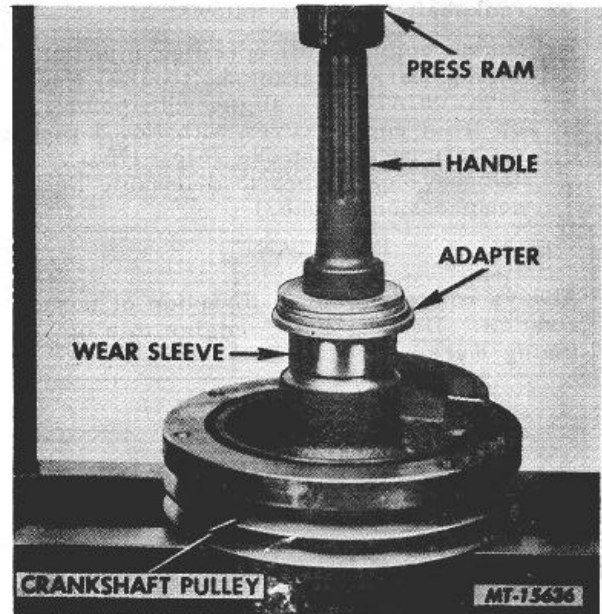

Fig. 173 Installing Front Oil Seal Wear Sleeve
- b. Heat wear sleeve in boiling water and position on pulley hub. Using handle and 7.3 cm (2-7/8 inch) diameter adapter from SE-1905 tool set, press wear sleeve onto pulley hub until flush with end of hub (Fig. 173).